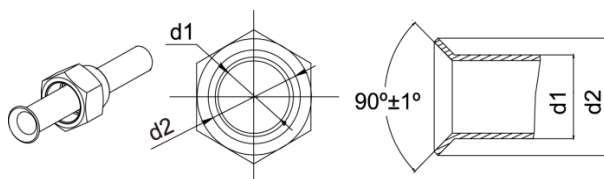

Fig. 8
- (1). Cut the connection pipe with the pipe cutter and remove the burrs.
- (2). Hold the pipe downward to prevent cuttings from entering the pipe.
- (3). Remove the flare nuts at the stop valve of the outdoor unit and inside the accessory bag of the indoor unit, then insert them to the connection pipe, after that, flare the connection pipe with a flaring tool.
- (4). Check if the flare part is spread evenly and there are no cracks (see Fig. 8).